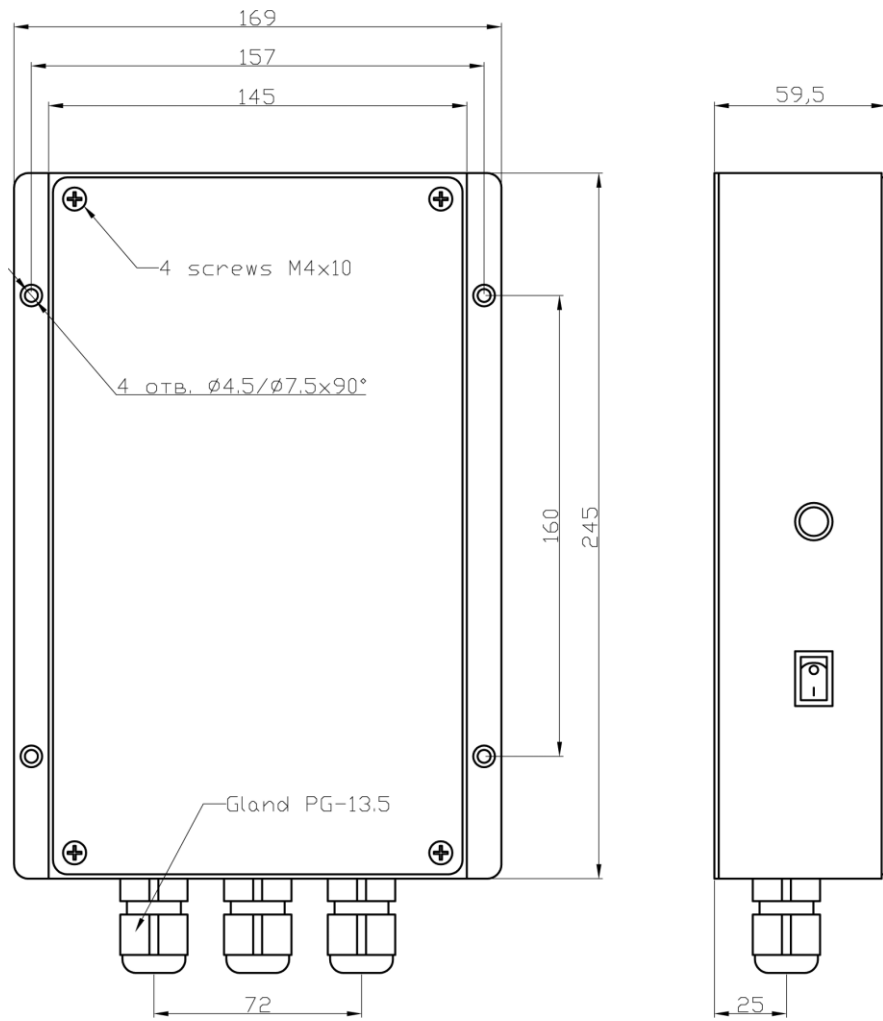

Fig. 1. PS installation drawing
1) Install the unit as per the installation drawing (fig. 1) on a vertical bulkhead or mounting panel. Special holes are provided in the enclosure for fixing the unit. Fasteners (screws, bolts) are inserted from inside the enclosure.